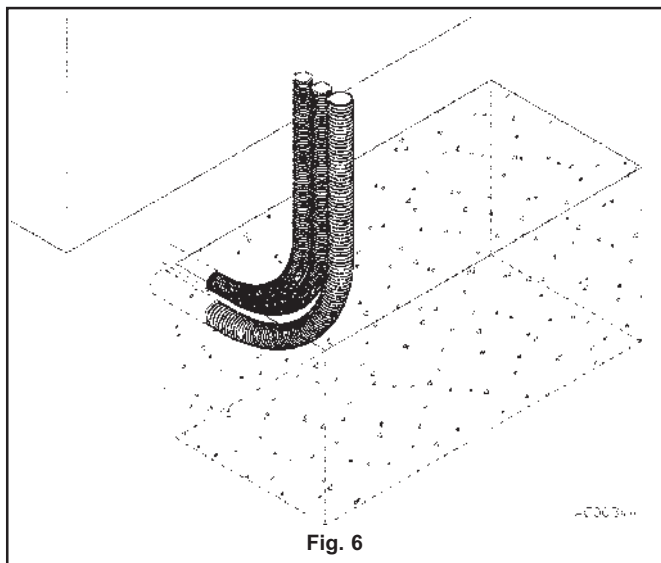

Fig. 6
- d) Take the electric cable pipes to the installation site, leaving a protrusion of 30 – 40 cm from the rest plane to be used for installation (fig. 6); plug them to prevent them from filling with debris.
f) Prepare the concrete mixture and pour it into the foundation dig, respecting the measurements given in fig. 6.